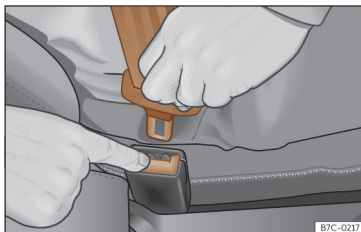

Fig. 20 Release the seat belt's latch plate.
Only unfasten the seat belt when the vehicle has come to a standstill >>> **Fig. 20**.
- Press the red button on the buckle >>> **Fig. 20**. The latch plate is released from the buckle.